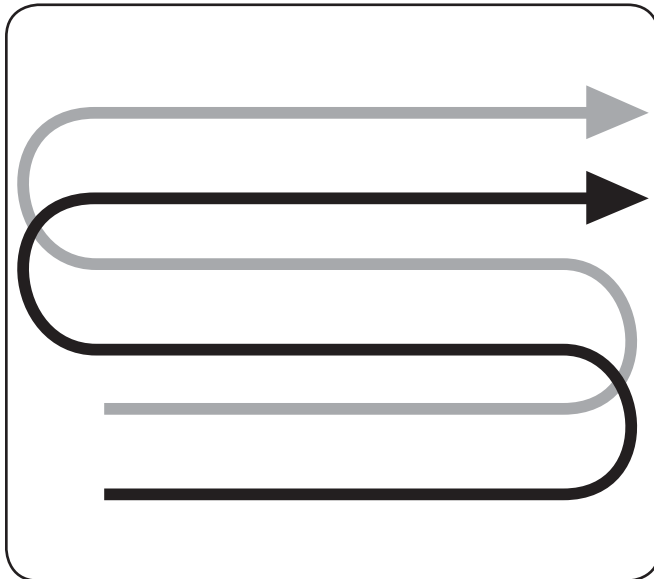

Figure 4-11
- When preparing a seedbed, go over the same path twice in the first row, then overlap one-half the tiller width on the rest of the passes. See Fig. 4-11.